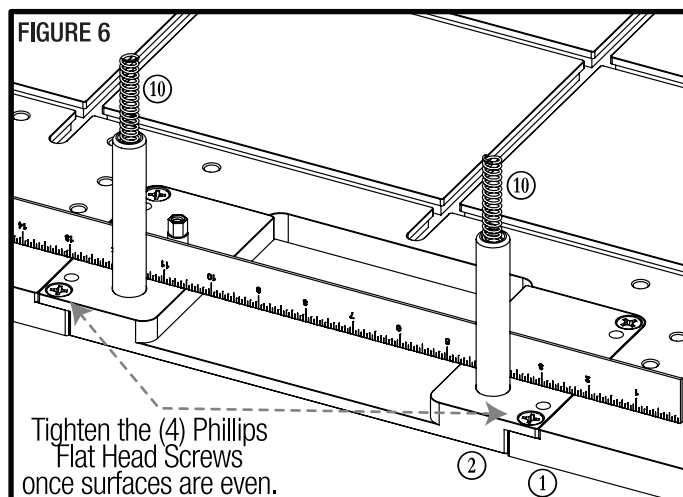

FIGURE 6
7. Once the two surfaces are even, tighten the (4) Phillips Flat Head Screws 1/4"-20 x 5/8". **Figure 6.**
8. Place one Spring ⑩ into each post on the Base. **Figure 6.**